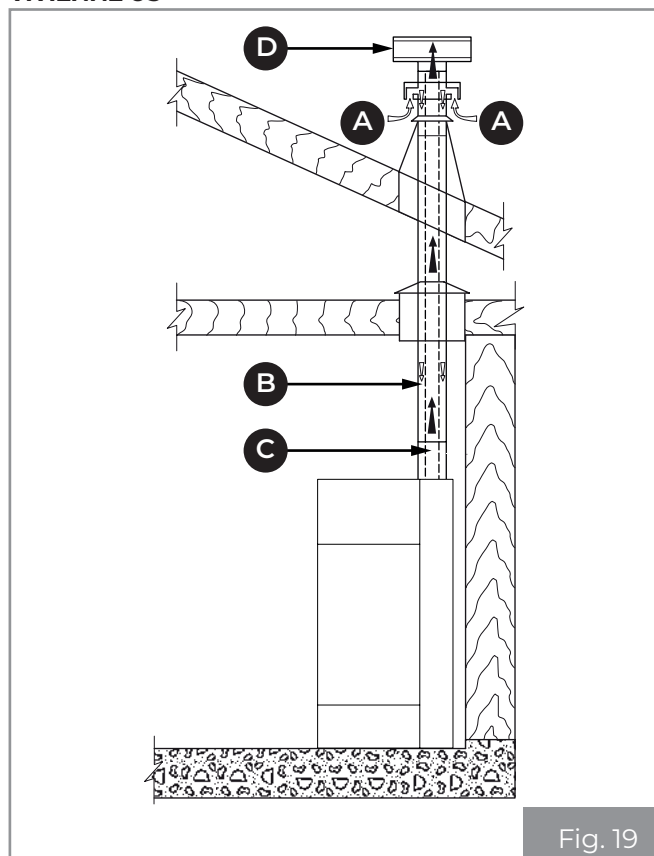
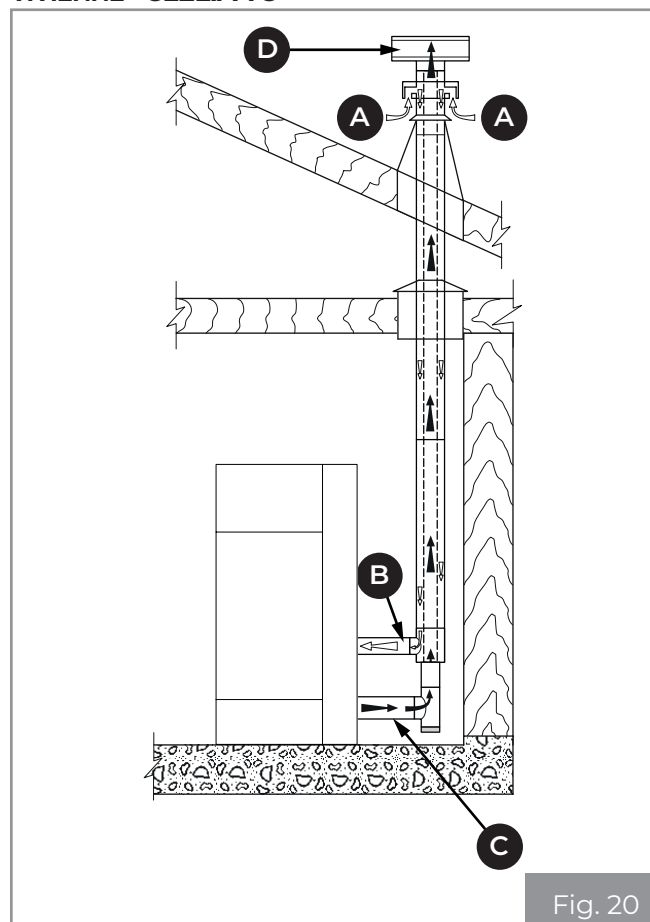
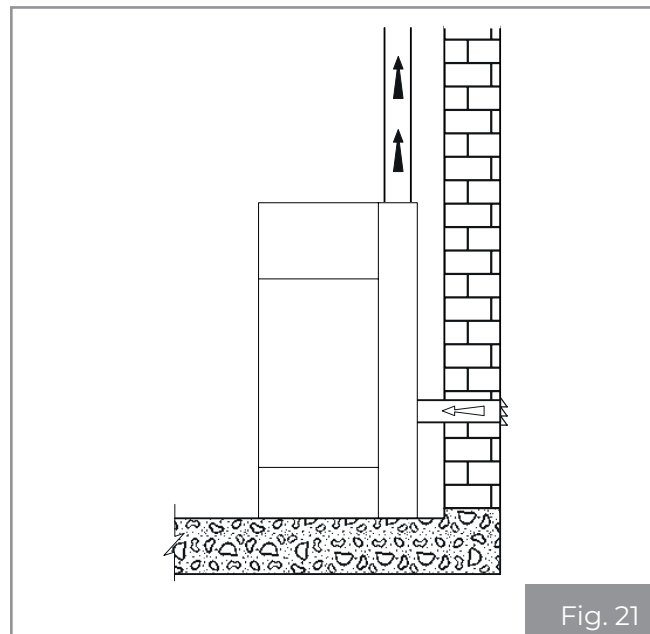
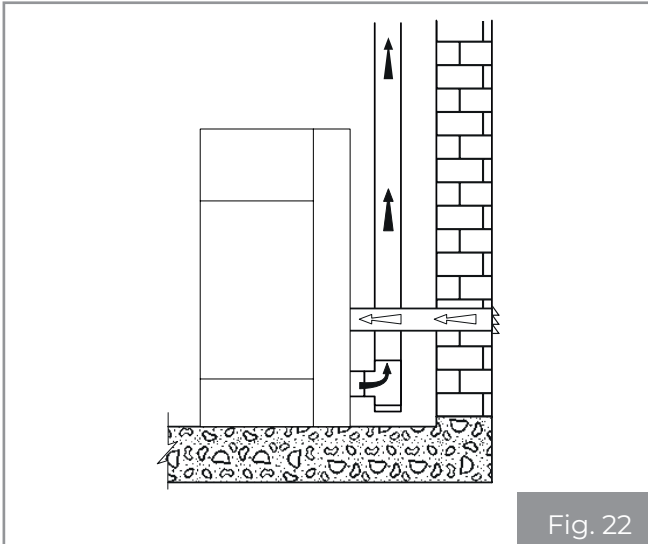

Fig. 19
Fig. 20
Fig. 21
Fig. 22
- it can come directly from outside with direct connection to the combustion chamber (**Fig. 19 - Fig. 22**).
- to channel the combustion air using a coaxial pipe to expel the flue gases and extract the air (**Fig. 19 - Fig. 20 - A, B = Air inlet, C, D = Flue gas outlet**); in this case it is not necessary to create a classic air intake in the room.
- to connect the combustion air inlet of the appliance to the air intake using a special pipe (**Fig. 21 - Fig. 22**).